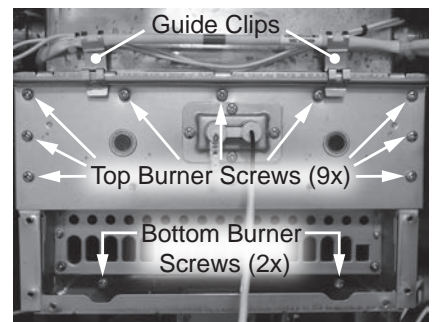

Figure 127 - Burner screws and guide clips
- 16 Locate the overhear cutoff fuse (OHCF) above the burner assembly. Remove the two guide clips from the burner assembly routing the OHCF around the primary heat exchanger. See Figure 127.
- 17 Locate the two bottom screws securing the burner assembly to the water heater as shown in Figure 127. Use a 12" magnetized Phillips screwdriver to remove screws. Place screws aside in a safe place for reinstallation.
- 18 Locate the nine top screws securing the burner assembly to the water heater as shown in Figure 127. Use a 12" magnetized Phillips screwdriver to remove screws. Place screws aside in a safe place for reinstallation.